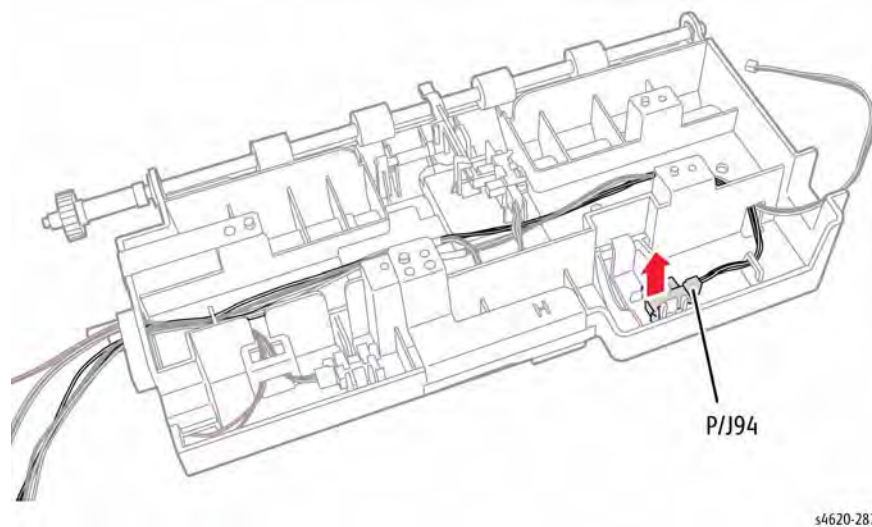

Figure 1 Remove the HCF No Paper Sensor
8. Disconnect P/J94 and release 2 hooks that secure the sensor to the HCF Feed Assembly, Figure 1.